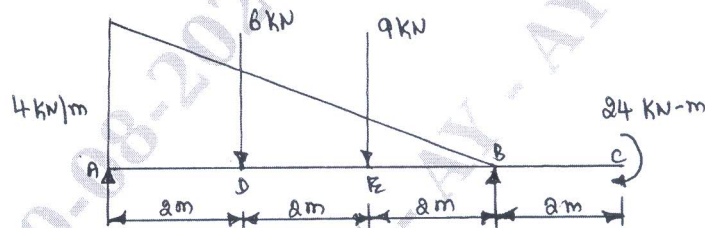

Fig.Q6
- 6 Analyze the beam shown in the Fig.Q6 and draw SFD and BMD.